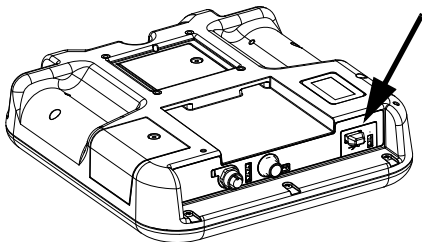

Fig. 3: : System Logic Controller USB Port
1. Insert the USB flash drive into the USB Port. See FIG. 3: on page 56.
3. Remove the USB flash drive from the USB port (BL).